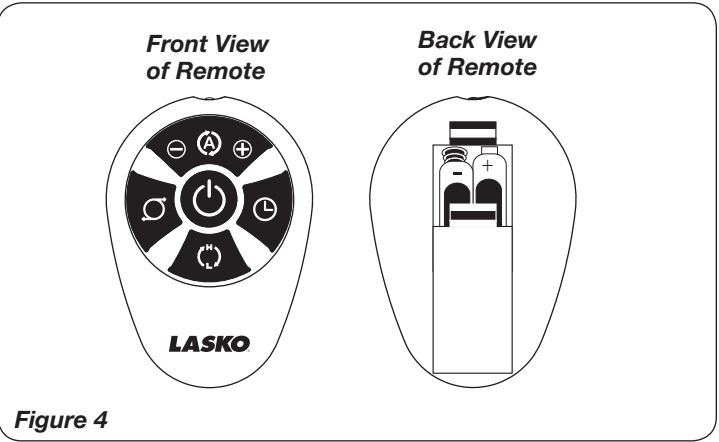

Figure 4
REMOTE CONTROL (Figure 4)
1. Install two “AAA” batteries. (Figure 4)